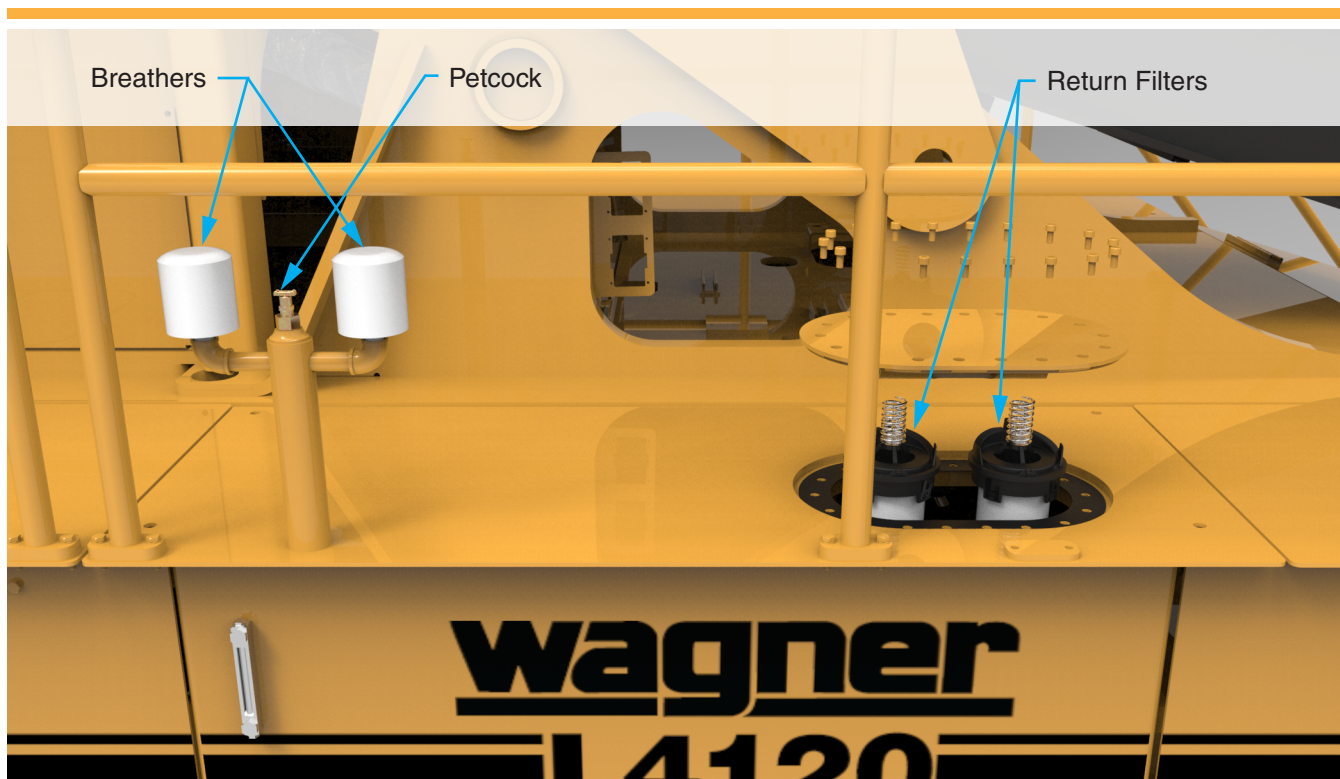

Figure 5-5-2 Return Filters
The return filters are accessed from the deck on the right side of the machine. See Figure 5-5-2.
1. Shut down the machine and vent captive pressure by opening the petcock at the breathers. See Figure 5-5-2.
6. Discard disposable element (2).